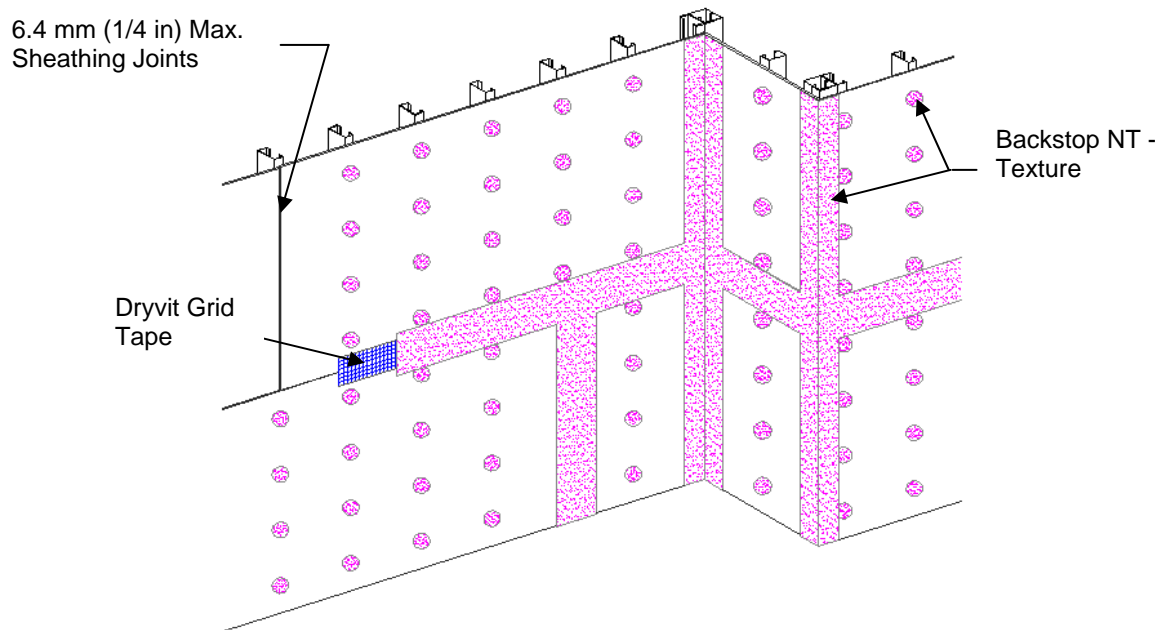

Figure 15
- a) Apply Dryvit Grid Tape as described in Section VI.B.5.a above. Mix the Backstop NT - Texture material as described in Section III.B.2. Using a stainless steel trowel or spatula, apply a layer of Backstop NT - Texture over the Dryvit Grid Tape and spot all fastener heads – Figure 15.